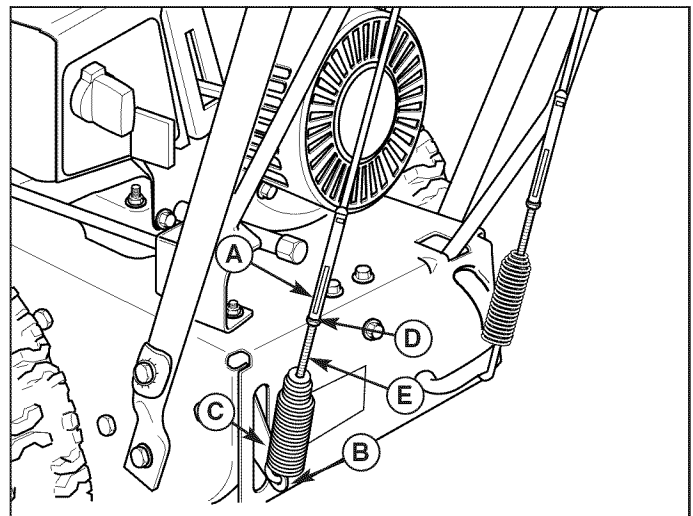

Figure 21. Traction Drive Adjustment (Tube Handle Models)
1. To adjust tension on the cable loosen adjustment hex nut (D, Figure 21) by holding the adjusting flats (A). Turn the adjustment screw. The adjustment screw is a phillips screw and the head can be held or turned by inserting a screwdriver through the traction drive clutch cable spring.